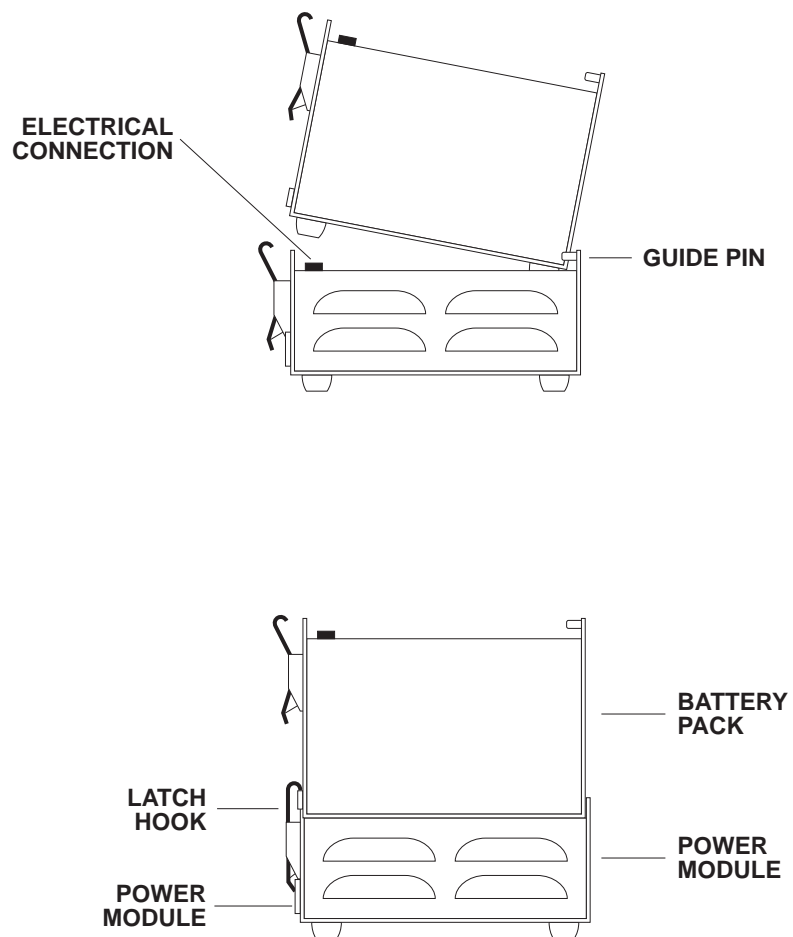
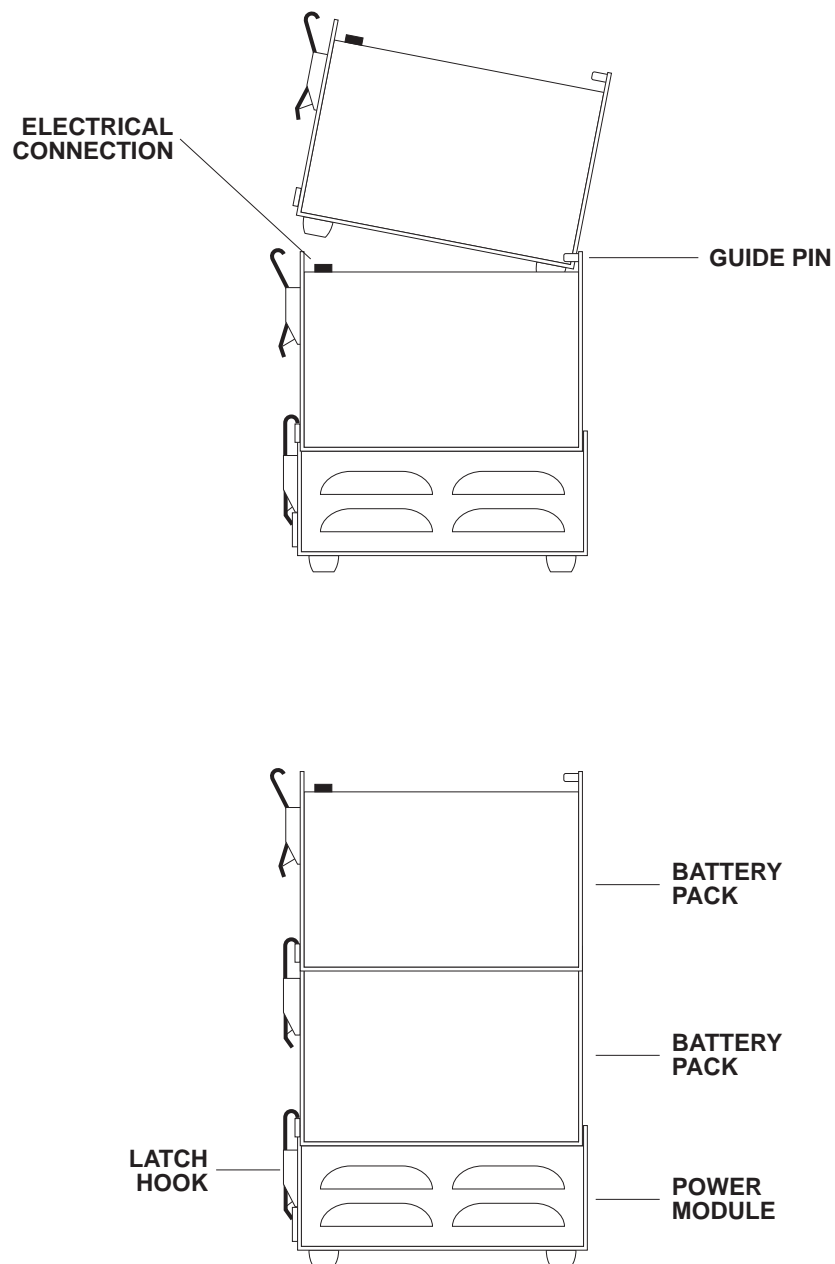

Figure 2.2
Figure 2.3
- 1) Connect the Battery Pack to the Power Module (refer to Figure 2.2). Multiple Battery Packs may be connected to the Power Module (refer to Figure 2.3).